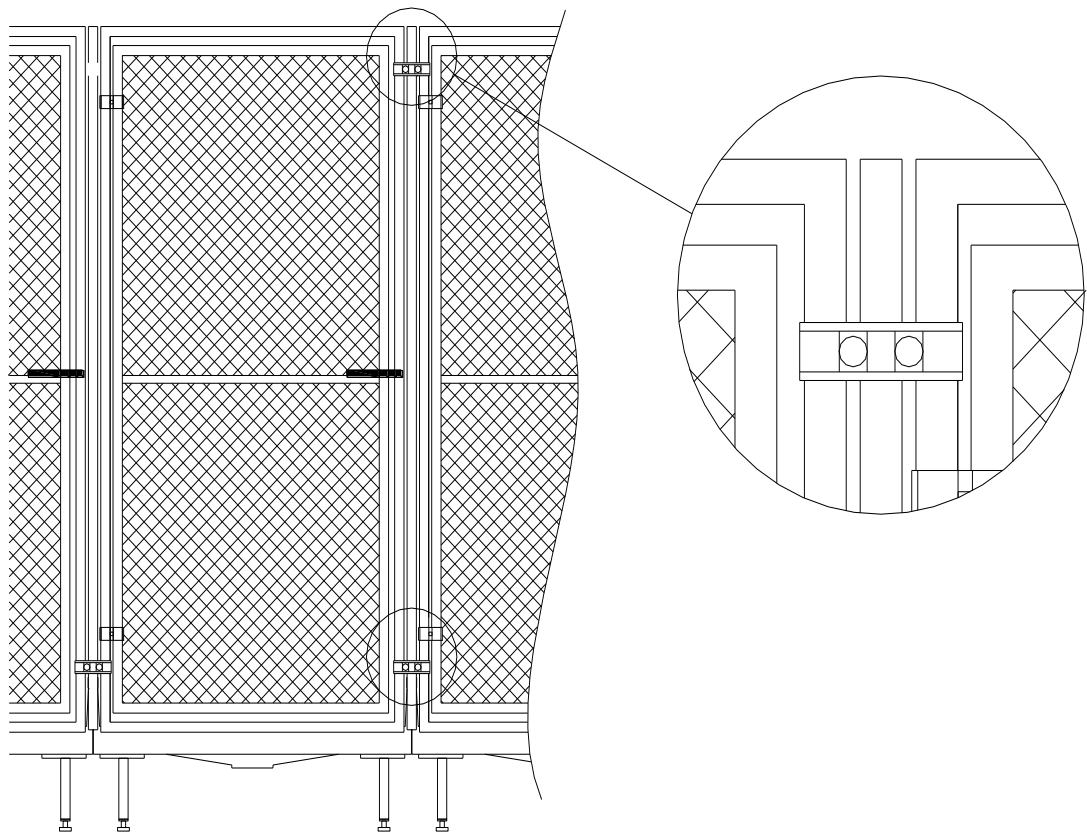

**Figure 12.**
1. Attach the filler pipes to the front end of each Division Panel with two square-round clamps (it takes two halves to make up one clamp) approximately 6" from either end of the filler pipe using the 5/16" x 1-3/4" galv. carriage bolts and 5/16" galv. nuts provided as shown in Figure 12.